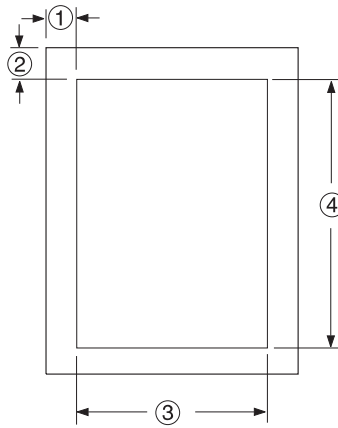

Figure 41. Logical Page Dimensions
**Note:** The parenthetical numbers represent dimensions. Figure 41 on page 64 shows how these dimensions relate to the logical page.